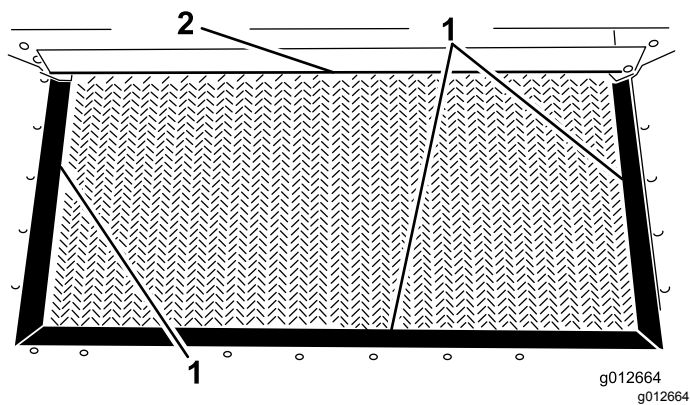

Figure 21
3. Inspect hopper seals and gate edge for wear or torn edges (Figure 21).